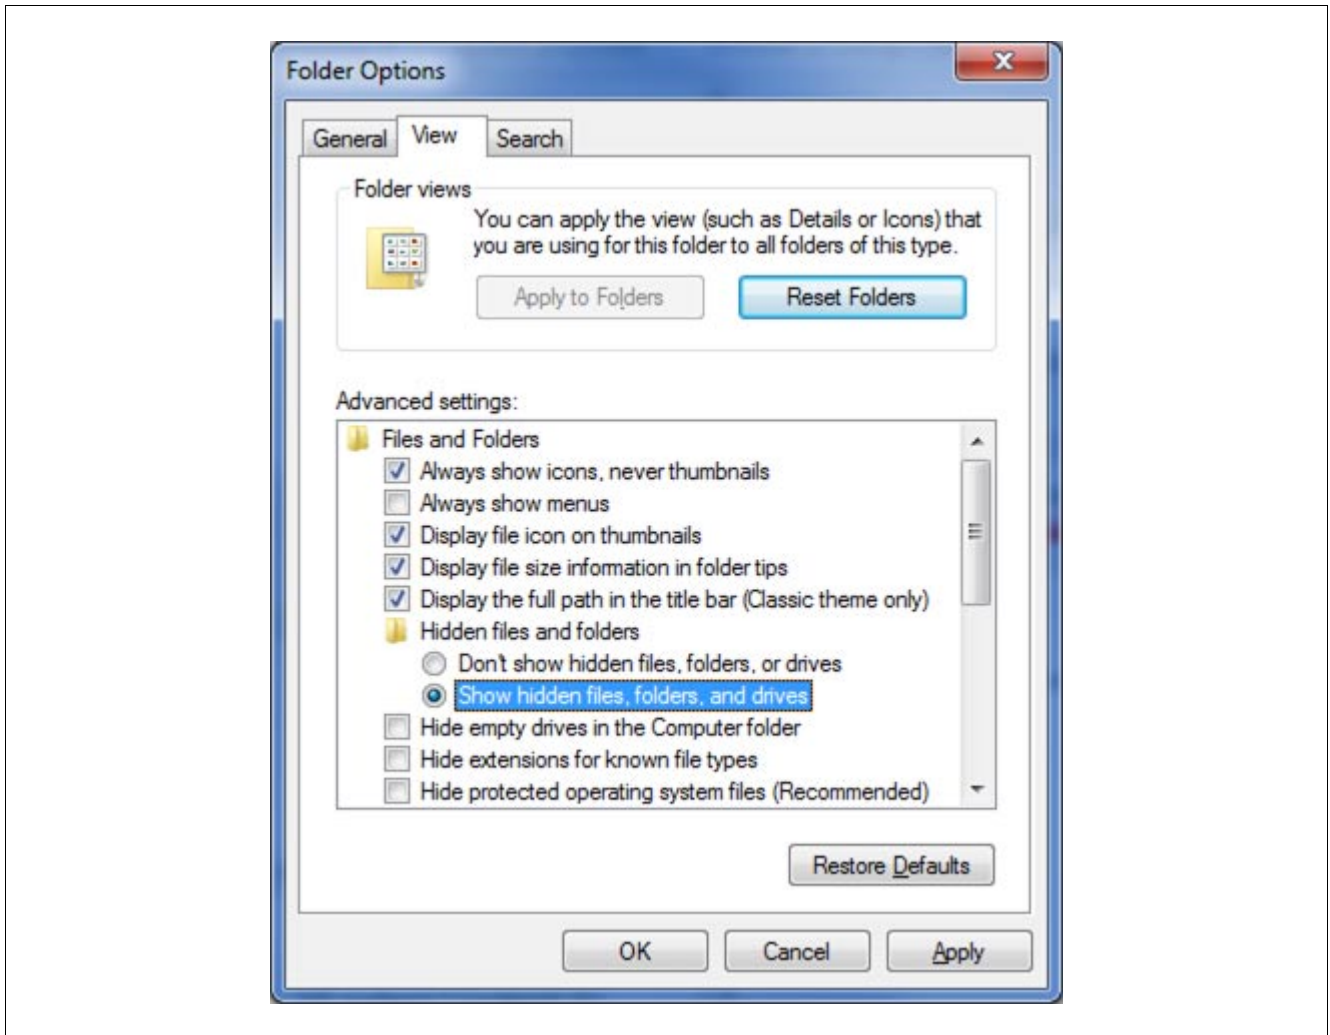

Figure 14 Folder and Search Options
1) The folder "C:\ProgramData\" is provided by the operating system for application specific data and is hidden, typically. To show this folder, please open the "Folder and Search options" dialog that is available in the Windows Explorer in the section "Organize (see Figure 14). Change the selection from "Don't show hidden files, folders, or drives" to "Show hidden files, folders, and drives". Press OK to take over the new setting. Afterwards, the respective folder "C:\ProgramData\" is shown by the Windows Explorer.